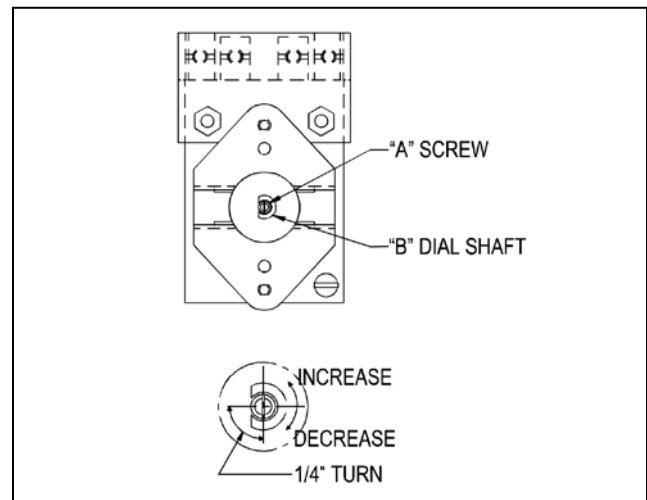

Figure 1
7. Hold thermostat dial shaft "B" (Figure 1) stationary with pliers, and with a screwdriver, turn screw "A" clockwise to obtain a lower temperature; or counter-clockwise for higher temperature. Each 1/4 turn (90° rotation) of screw "A" represents 18°F.